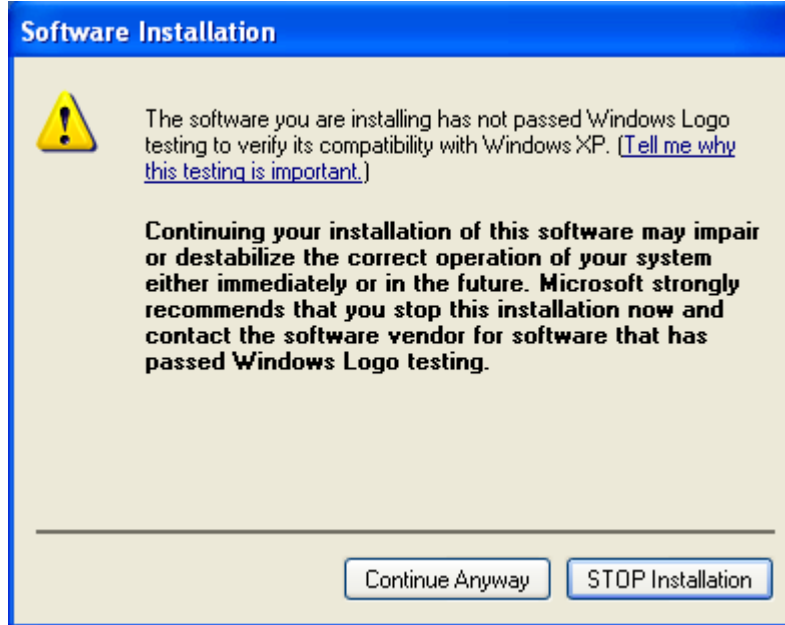

Figure 6-16: AC'97 Driver Installation Verification
Step 7: The Verification window in **Figure 6-16** may appear.